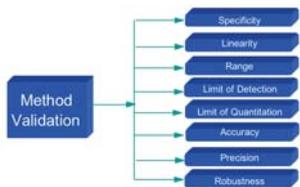

Figure 1: Typical analytical characteristics used in method validation, commonly referred to as the "Eight Steps of Method Validation."
Method validation is the process by which it is established, through laboratory studies, that the performance characteristics of the method meet the requirements for its intended purpose (1-5). It is a part of the overall validation process that also includes software validation (6), instrument qualification (7,8), and system suitability (9). Typical analytical characteristics used in method validation are highlighted in Figure 1. Although all analytical procedures or methods used in a regulated laboratory must be validated, this chart focuses specifically on liquid chromatography.